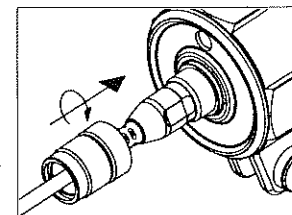

Figure 20
4. Fix the cable and socket firmly with the coupler. (Figure 20)